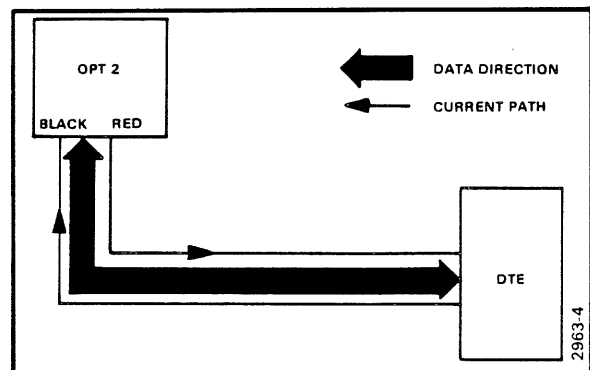

Fig. 1-3. Half-Duplex (two-wire) Modem Simulator Mode.
3. Connect only the R-DATA LOOP test leads to the unit under test as shown in Figs. 1-3 and 1-4.